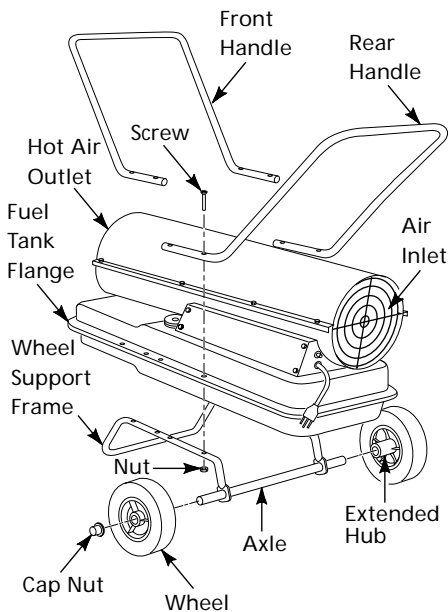

Figure 4 - Wheel and Handle Assembly
**IMPORTANT:** When installing wheels, point extended hub of wheels toward wheel support frame (See Figure 4).